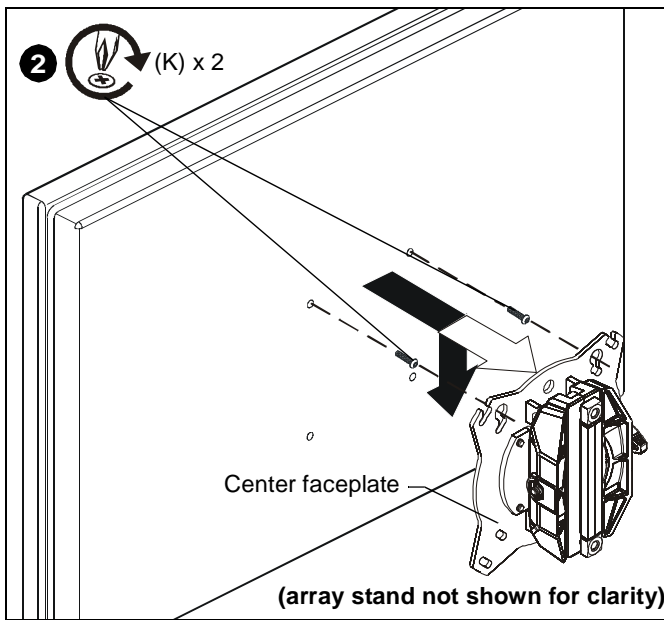

Figure 12
2. Using Phillips screwdriver, carefully install two M4 x 12mm Phillips pan machine screws (K) into the *upper* mounting holes on the display. Thread screws completely into display, then back out 3 complete turns. (See Figure 12)
3. Pick up and align display so that screws (K) (installed on the back of the display in the previous step) fit into the mounting holes on the faceplate. Lower the display firmly into place. (See Figure 12)